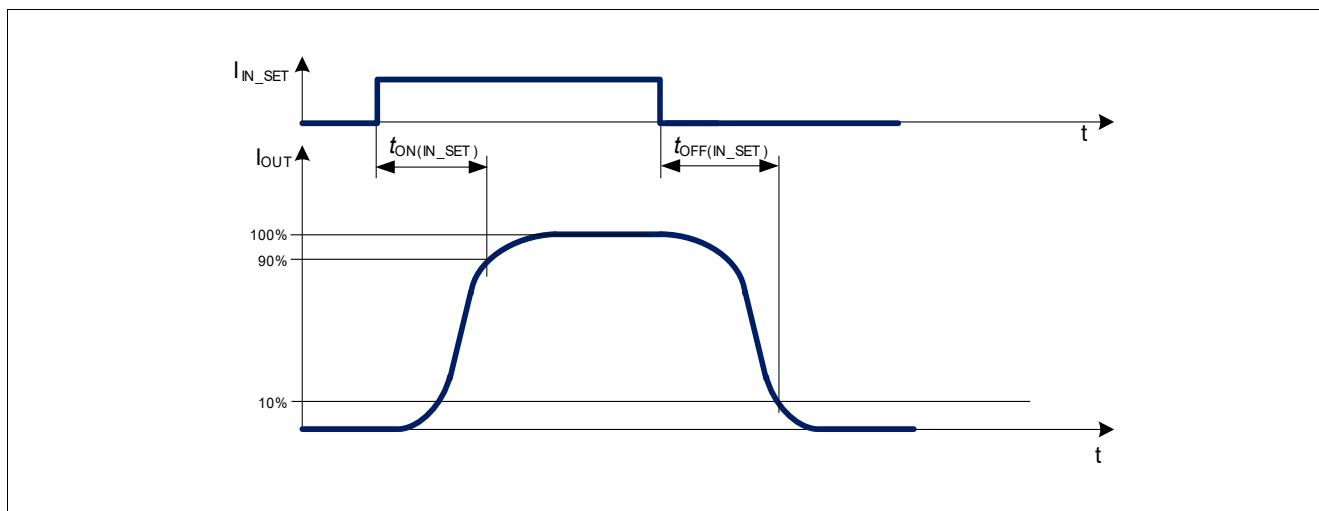
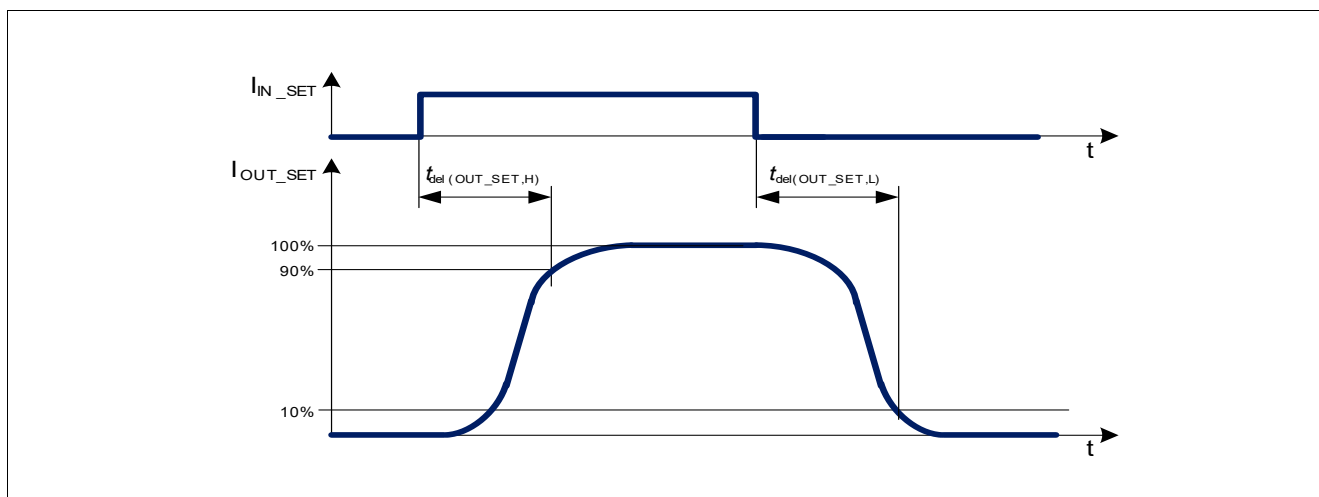
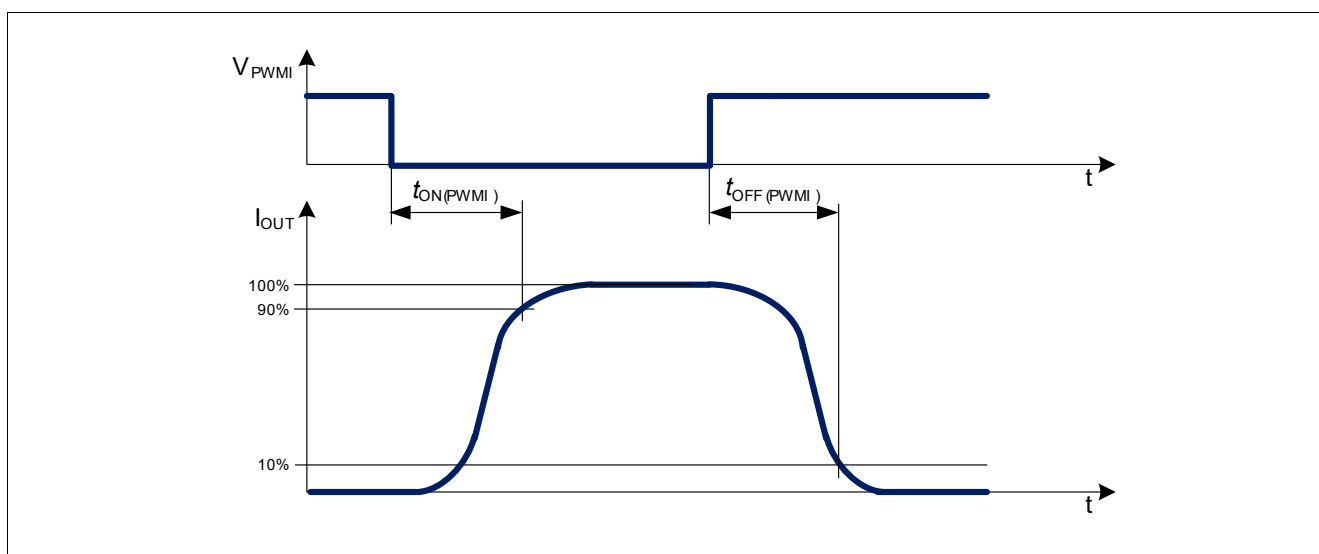

Figure 12 IN_SET turn on and turn off delay timing diagram
Figure 13 IN_SET to OUT_SET activation and deactivation delay timing diagram
Figure 14 PWMI turn on and turn off timing diagram
In the following diagrams (Figure 12, Figure 13, Figure 14) the influences of different driving inputs on output activation delays are shown.
2) Refer to Figure 12.
3) Refer to Figure 13.
4) Refer to Figure 14.